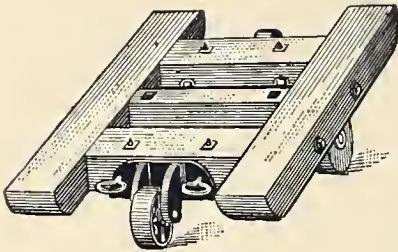

Fig. B 518.
*The Balance Block-Truck*, illustrated in *Fig. B 518*, combines the BLOCK-TRUCK and BALANCE-TRUCK just described.